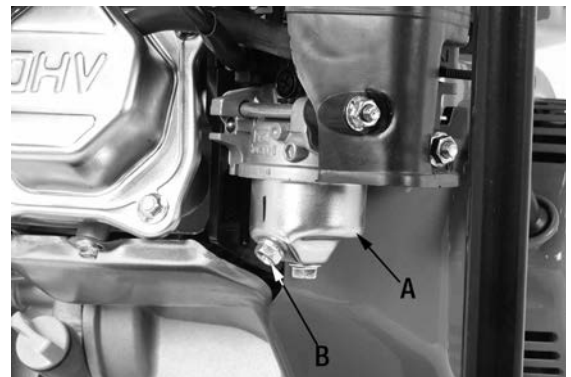

Figure 15
- 5) Remove drain hex. bolt (B) Fig.15 from the carburetor (A) and drain all fuel inside the tank.